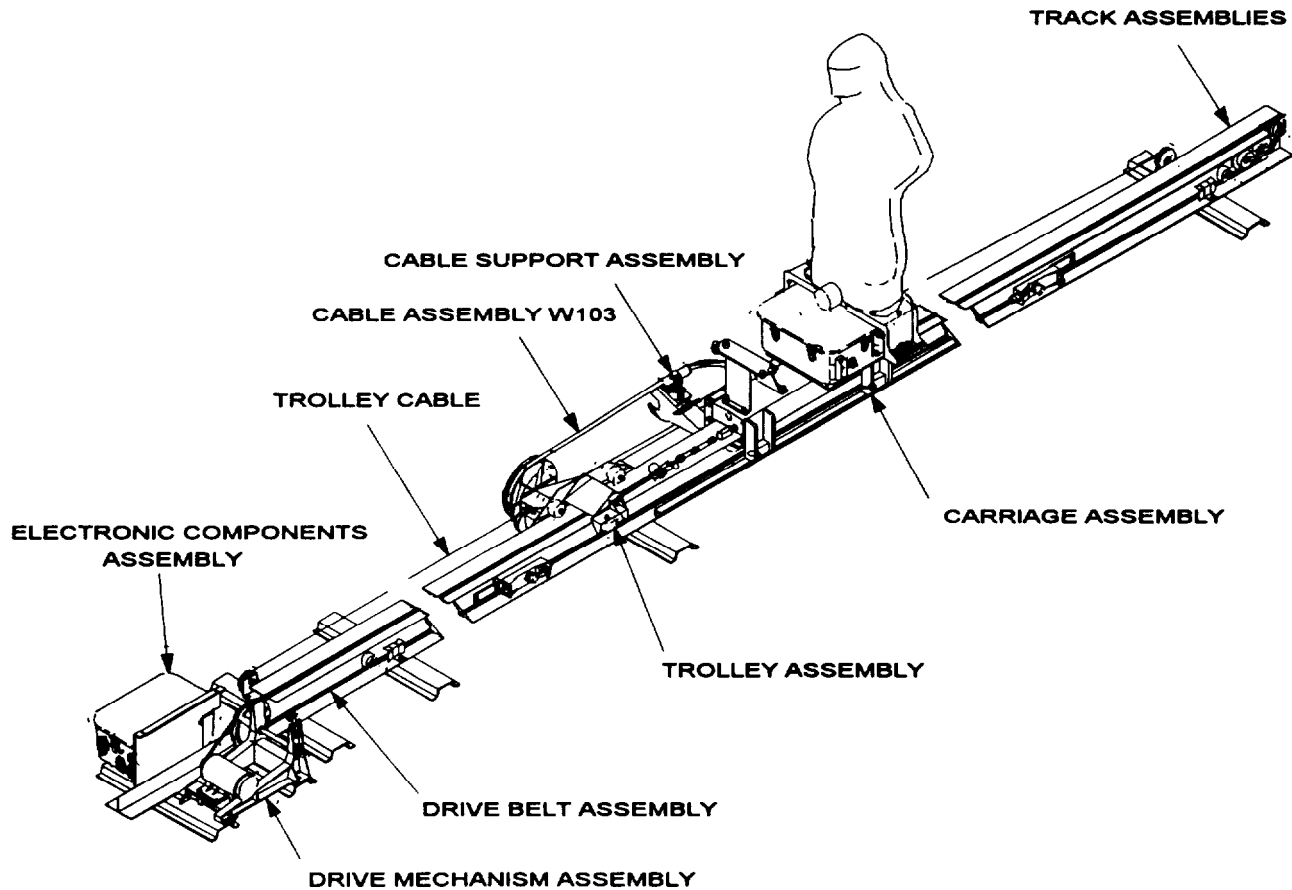

Figure 1-2. Major Components on IMTC.
a. Location and Description of Major Components on IMTC. Refer to figure 1-2.